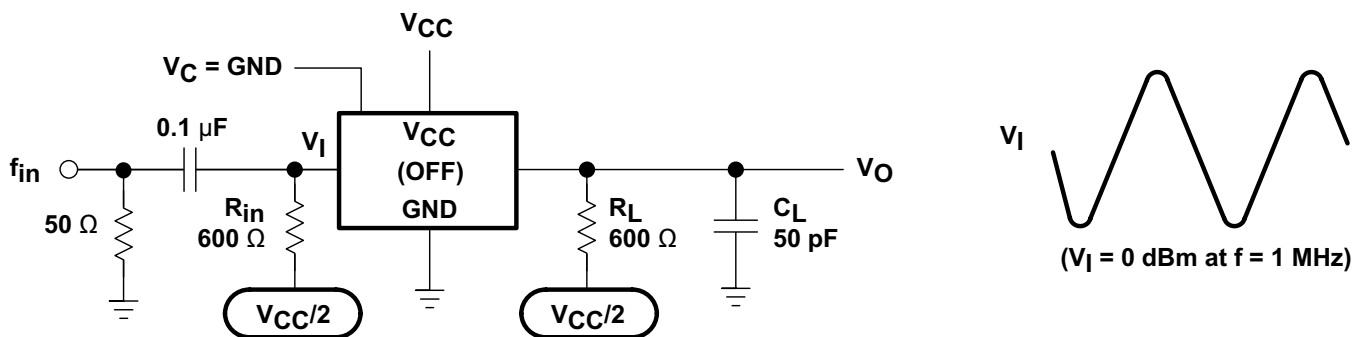

Figure 11. Feed Through, Switch OFF
| Feed through, switch off, A to B or B to A (2)                                                      | C L = 50 pF, f in = 1 MHz, R L = 600 Ω (see Figure 11)         | 42    | dB   |